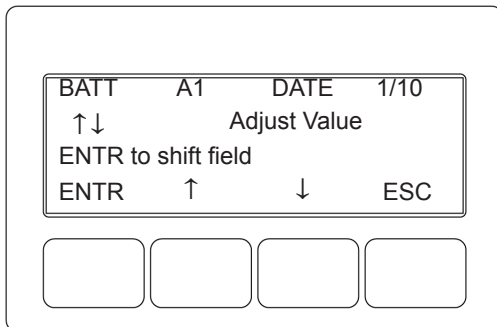
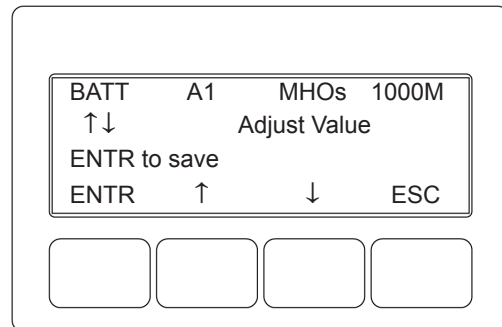

Fig. 2-24, Enter Battery Date Code
Fig. 2-25, Enter Battery MHOs Reading
20. Enter the battery DATE code and the MHOs (conductance) readings. Battery date and MHOs entries can be made on the LCD (see Figs. **Fig. 2-24, Enter Battery Date Code** and **Fig. 2-25, Enter Battery MHOs Reading**).